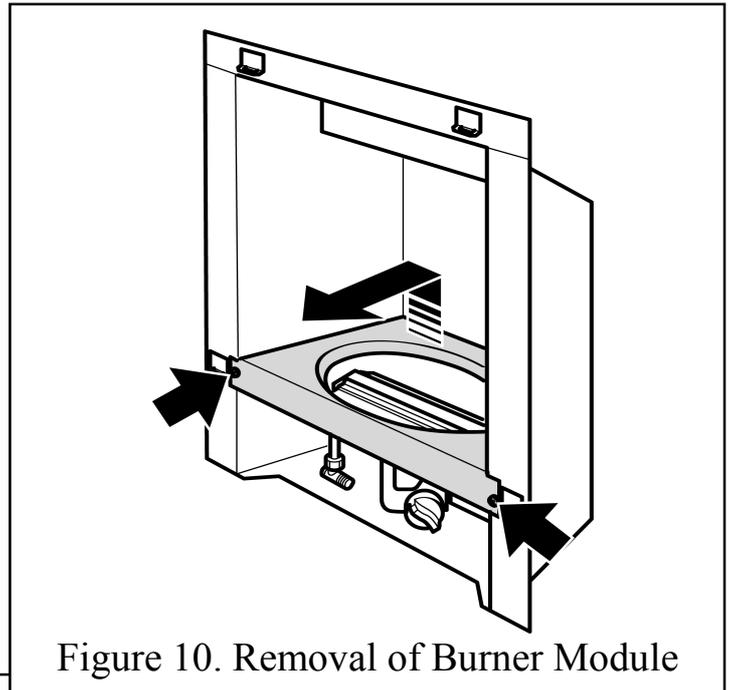

Figure 10. Removal of Burner Module
6. Remove the two screws to the side of the burner cover (See figure 10)
7. Detach the burner cover by lifting clear of the burner module (See figure 10)